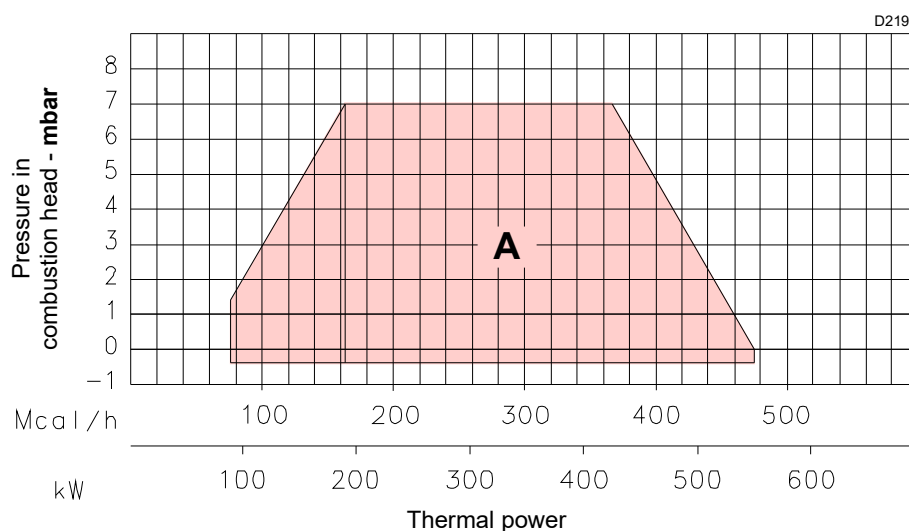

Fig. 2
- a **MAXIMUM OUTPUT**, selected within area A (Fig. 2);
The firing rate value (Fig. 2) has been obtained considering an ambient temperature of 20 °C, an atmospheric pressure of 1013 mbar (approx. 0 m a.s.l.), and with the combustion head adjusted as shown on page 16.